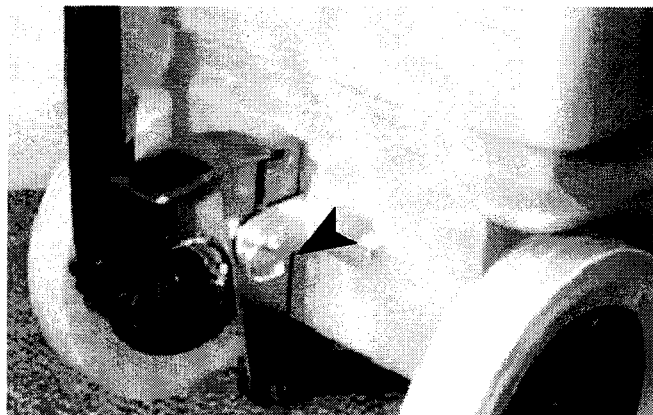

FIG. 4.
- Slide pedal between two mounting arms on back of machine. Align and insert clevis pin through arms and slot in pedal, secure with cotter pin. (Figure 4.)